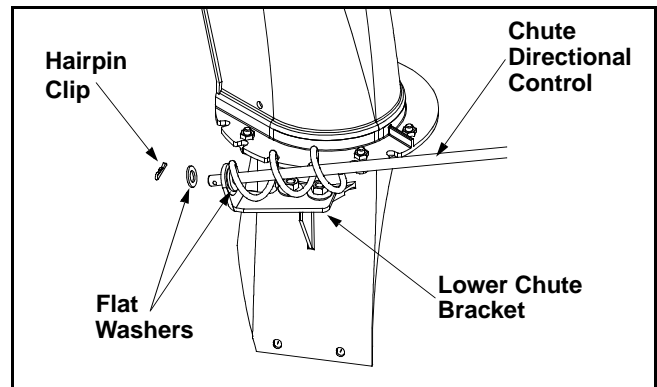

Figure 6
- Place one flat washer on the end of the chute directional control, then insert the end of the control into the hole in the plastic bushing in the lower chute bracket. Place another flat washer on the end of the chute directional control, and insert hairpin clip into hole in the end of control. See Figure 6.